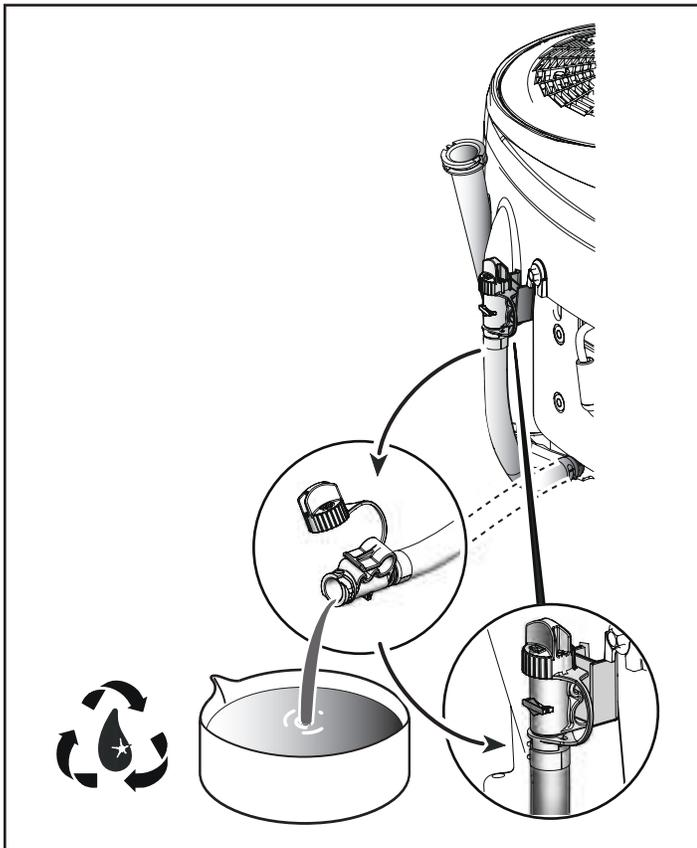

Figure 11
5. Disconnect the oil drain hose (see Figure 11). Carefully remove cap and lower hose into an approved container. After the oil has drained, install cap tightly, then attach the hose to the side of the engine.